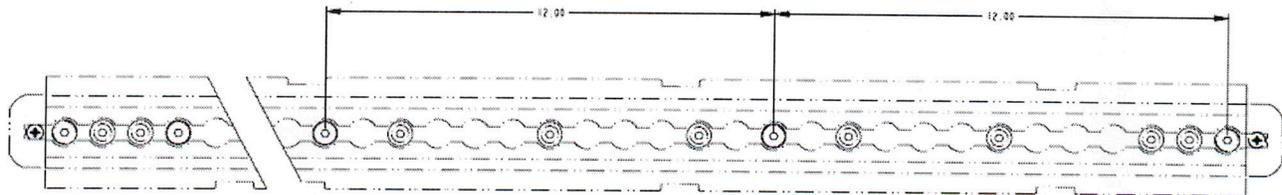

Figure 1
- 2) After reviewing the layout of the track, mark off with tape the first location near end of track as in Figure 1. Next mark off 12" from that location to the next on same piece of track. Continue marking off every 12" until end of that section and for each of the remaining sections.
- 3) Drill using a "P" bit (.3230" bit), drill hole centered on track at each of the markings provided in step2. (This may require removing seats if drill will not fit.) This hole will be thru the track and floor. See Figure 1.